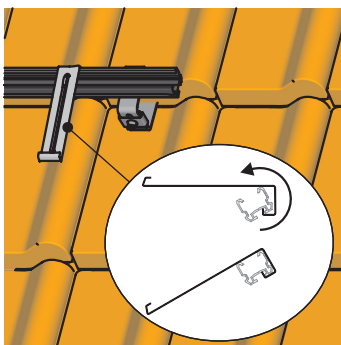
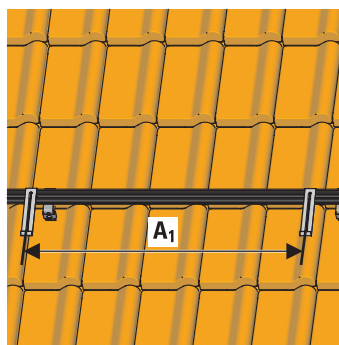

Fig. 3-15 Inserting the solar panel securing clips
Fig. 3-16 Positioning the solar panel securing clips
1. Fit solar panel securing ties vertical to the solar panel support surface, at the distance specified for the type of solar panel into the guiding groove of the lower mounting profile and tilt downwards. After they have been hooked on, the solar panel securing clips can be moved sideways (see Fig 3-15 and Fig 3-16).